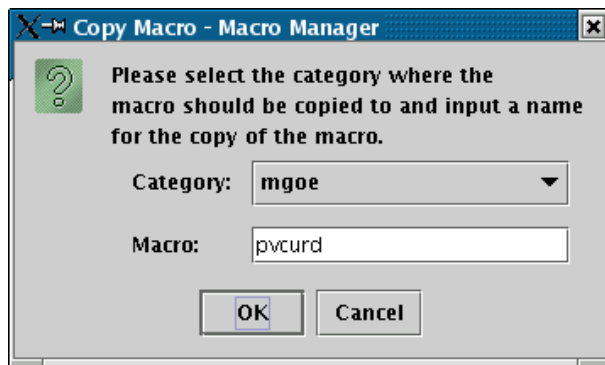

Figure 3.27: Copying a Macro
3. Select the macro category and the name for the copy (see [Figure 3.27 \[p 708\]](#)).